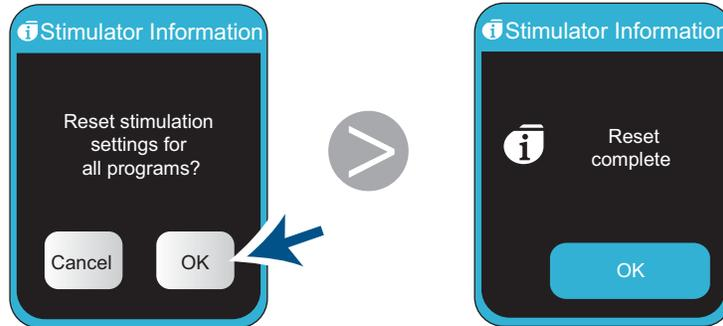

Figure 29. Simulation settings have been reset
4. Tap **OK** (Figure 29). The Reset Complete screen appears. The stimulation settings for all programs have been reset.